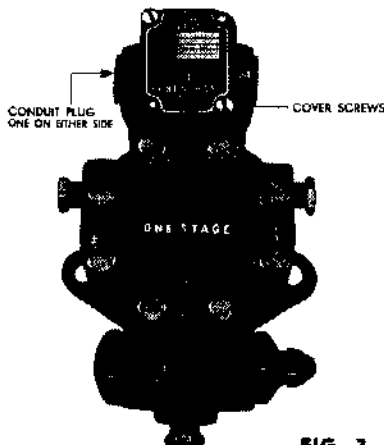

FIG. 3
13. Smoke pipe protrudes into chimney or elbow too far (Fig. 2).	Make end flush with inside of chimney. For elbow connection, see Fig. 3.
Fig. 3 If chimney ends only a short distance below point where smoke pipe enters, make "toothpick joint," as shown. Remove soot from below flue opening regularly.
1. Loosen two cover screws and remove cover as shown in figure 3.